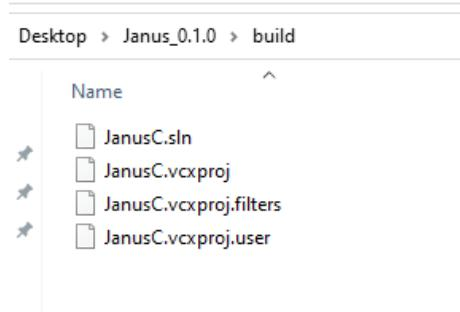

Fig. 2.2: Microsoft Visual Studio project files for the Janus 5202 software. The path is visible in the top bar.
- **build**: folder containing the Microsoft Visual Studio project (see Fig. 2.2).